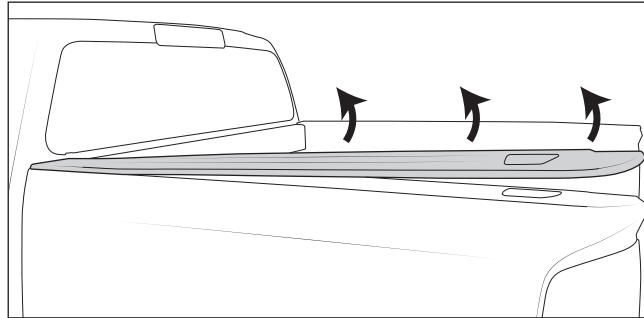

Figure 3
1. Remove bedside plastic covers by prying upward (fig. 3).